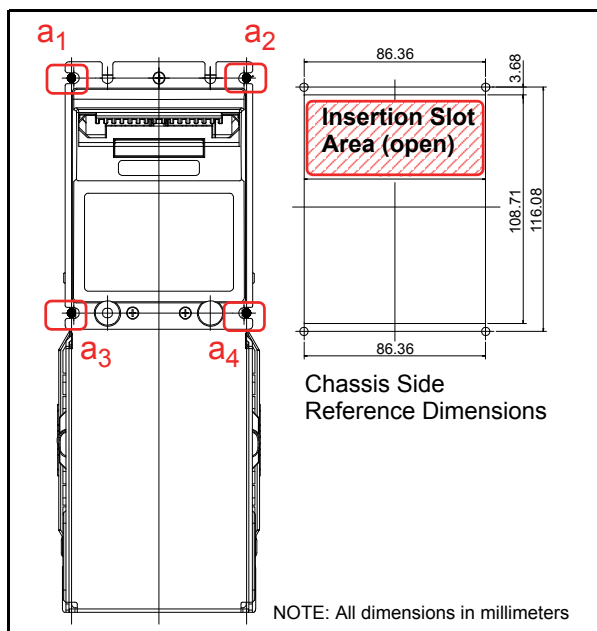

Figure 6 Thread Studs Location
1. Place the DBV-500 Unit Frame cut outs (Figure 6 a₁ through a₄) on to the Threaded Studs on the chassis.
2. Secure the rear side of the DBV-500 Frame to the chassis with four (4) nuts.